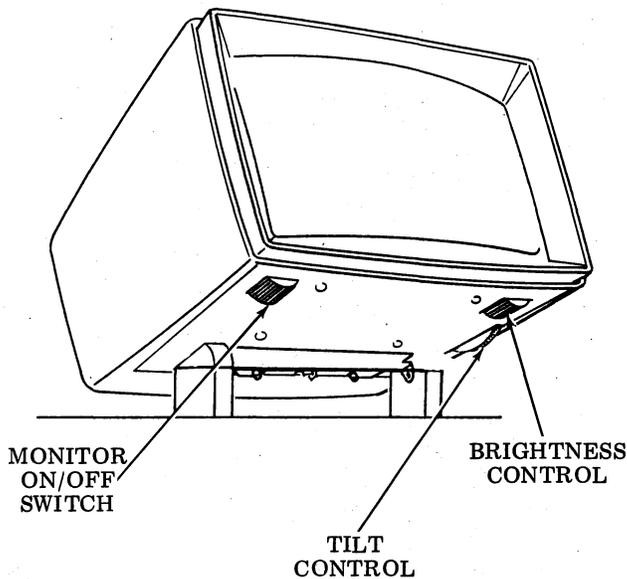

Figure 5 - Display Monitor (KD and KDP)
2.09 The display monitor is illustrated in Figure 5. This assembly mounts atop the station electronics package or printer package, depending on the station configuration. The mounting posts on the underside of the monitor contain connectors that mate with connectors in the posts on the electronics package or printer package.